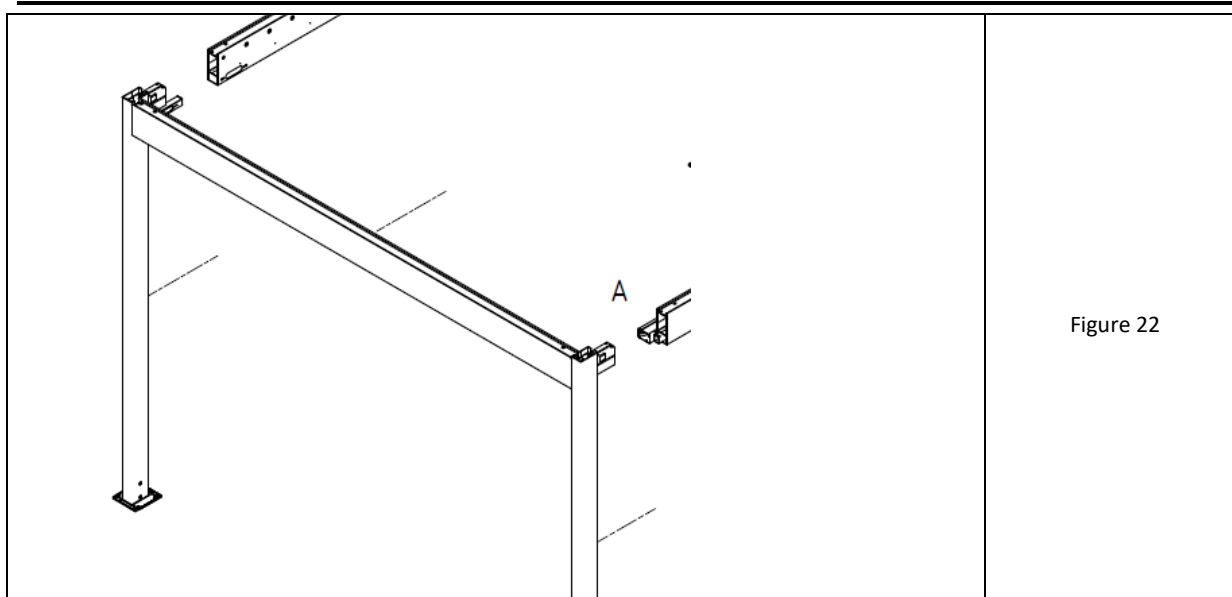

Figure 22
15. Slide the second cross frame over the free ends of the lengthwise beams (fig. 22).